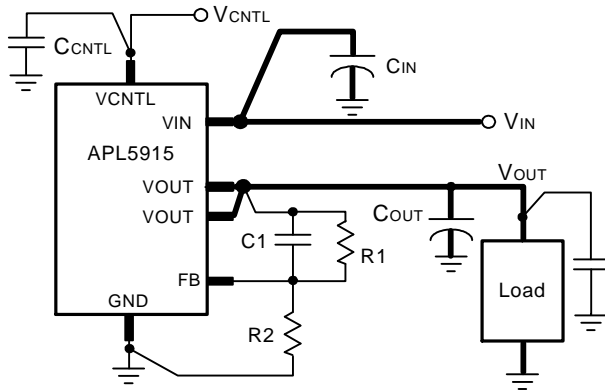

Figure 2
### PCB Layout Considerations (See Figure 2)
8. See the Typical Application (see next page Figure 2)